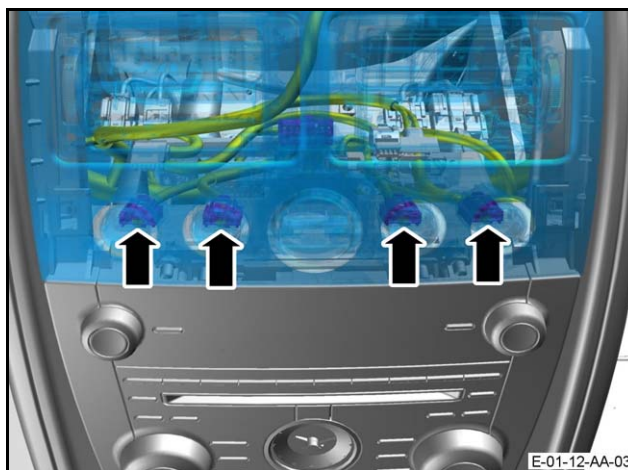

Figure 9
12. Connect the electrical connectors to each of the four transmission control switches (refer to Figure 9).